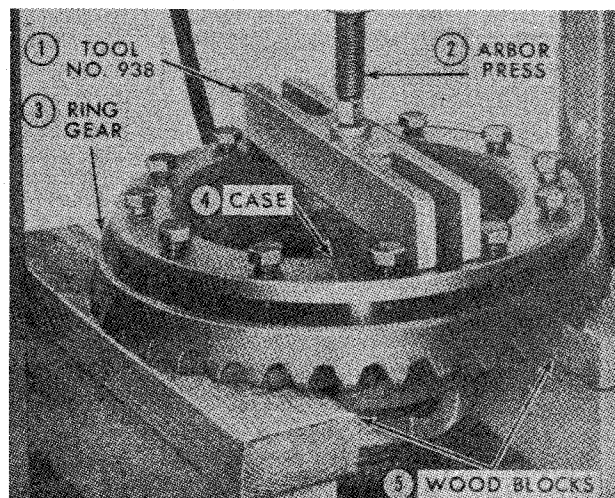

Fig. 171—Installing bevel ring gear to differential case. Gear is aligned by installing all retaining cap screws, then case is pressed into gear.
To renew ring gear, support outer edges of gear in bed of press and press differential case out of the gear. To install new gear, support gear on wood blocks (Fig. 171) and insert differential case in gear with bolt holes in case and gear aligned. Thread all retaining cap screws through case into gear as shown, then press case downward into gear. Remove assembly from press and remove the cap screws.
Fig. 170—Exploded view of differential showing lock components and carrier bearings. Cap screws (30) retain cover (22) to differential case (6) and also retain main drive bevel ring gear (4) to differential case; refer to Fig. 171 for installation of ring gear. Fluid for operation of differential lock piston (18) enters right carrier bearing support through fitting (28) and is transmitted to cover (22) through bore in hub of cover. Sealing rings (23) fitted in grooves in cover hub are located at each side of oil passage in bearing support (27) and hub.